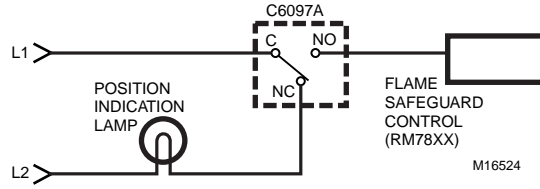

Fig. 3. Wiring the Position Indication Lamp Kit in the C6097A.
7. Using Fig. 3 or 4 for reference, fasten the terminal lug on the longer lamp wire to either the normally open (NO) or normally closed (NC) terminal of the C6097.
The Position Indicator Lamp will light when the C6097 Pressure Switch opens and provides power to the lamp. See Fig. 3 or 4. An optional alarm circuit can also be connected.